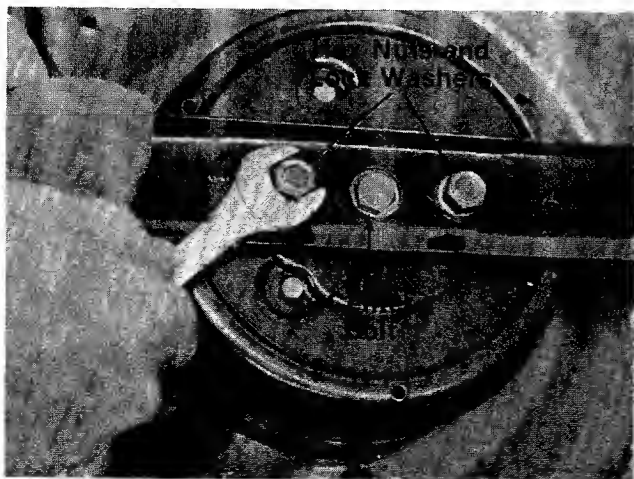

FIGURE 17.
To remove the cutting blade for sharpening or replacement, remove the two hex nuts and lock washers which hold the blade to the blade brake/clutch. See figure 17.
7. Tip the mower on its side. Remove the blade by removing two hex nuts and lock washers. Refer to figure 17.